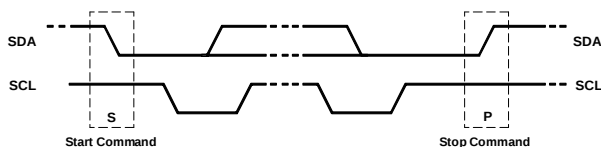

Figure 11: Start and Stop Commands
The start (S) and stop (P) commands are signaled by the master device, which signifies the beginning and the end of the I²C transfer. A start command is defined as the SDA signal transitioning from high to low while the SCL signal is high. A stop command is defined as the SDA signal transitioning from low to high while the SCL signal is high (see Figure 11 on page 23).